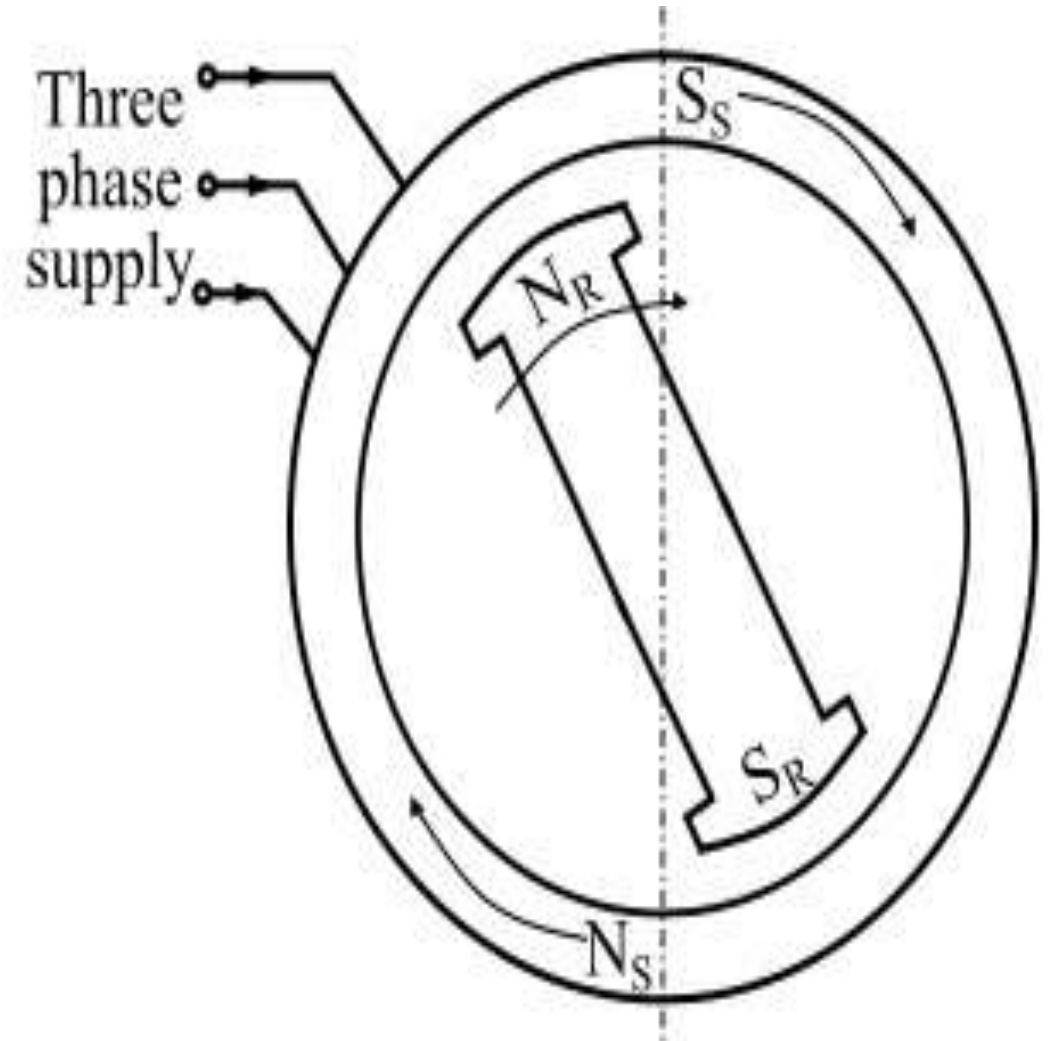

Figure-3
- **After a period of half-cycle of the AC supply, the polarities of the stator poles are reversed but the polarities of the rotor poles remain the same as shown in Figure-3. in the anticlockwise direction**